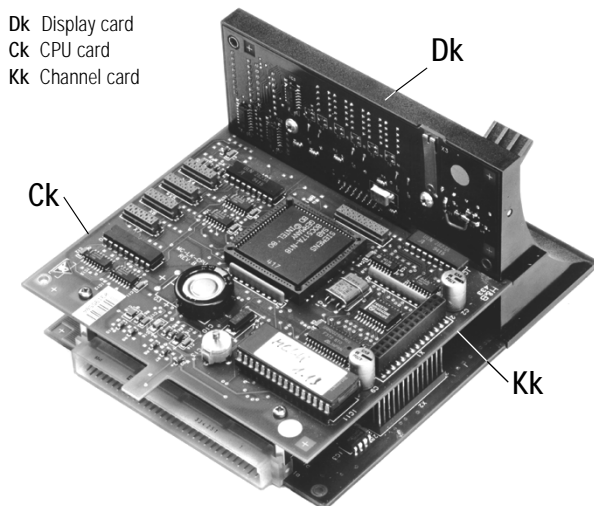

Figure 14 Electronic unit removed (rear view)
4. Remove the electronic unit (see figure 14).